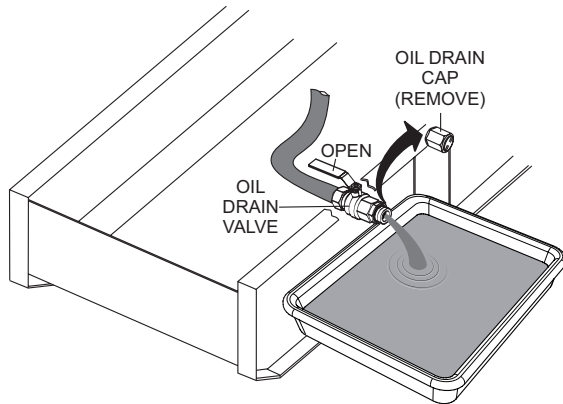

Figure 67. Draining The Engine Oil
4. Remove the **oil drain cap** (Figure 67).